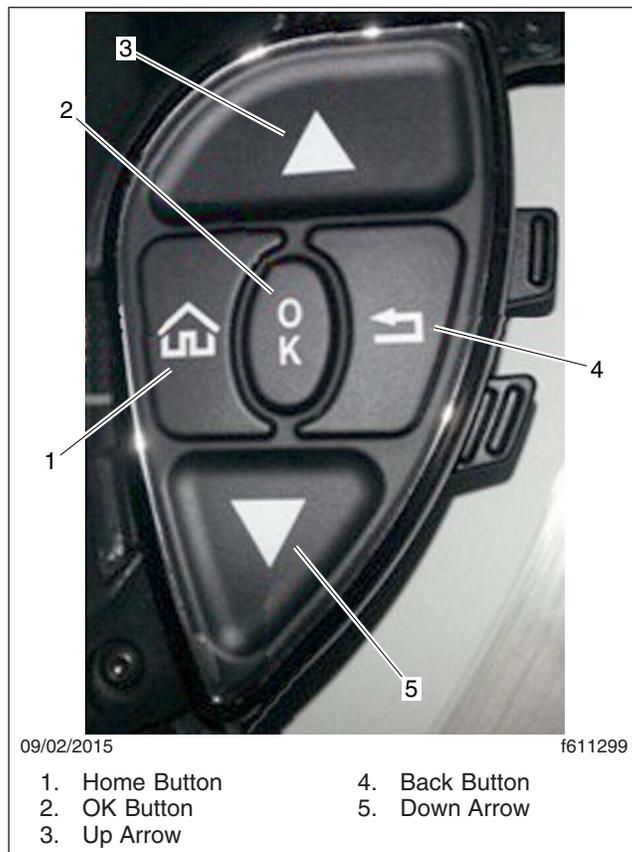

Fig. 12, Steering Wheel Buttons
8. With the ignition on, insert the flash drive labeled 'Procedure A, Step 1' in the open USB port on the Viper II module. Using the buttons on the steering wheel, shown in **Fig. 12**, navigate to Diagnostics, then System Information.
9. Hold the OK button until the new software part number appears, release OK button then press OK button again to begin the update. See **Fig. 12**.
11. Using the buttons on the steering wheel, shown in **Fig. 12**, navigate to Diagnostics, then System Information.
8. With the ignition on, insert the flash drive labeled 'Procedure B, Step 1' in the open USB port on the Viper II module. Using the buttons on the steering wheel, shown in Fig. 12, navigate to Diagnostics, then System Information.
9. Hold the OK button to begin the update. See Fig. 12.
13. Using the buttons on the steering wheel, shown in Fig. 12, navigate to Diagnostics, then System Information.
17. Using the buttons on the steering wheel, shown in Fig. 12, navigate to Diagnostics, then System Information.
2. With the ignition on, insert the flash drive labeled 'Procedure C, Step 1' in the open USB port on the Viper II module. Using the buttons on the steering wheel, shown in **Fig. 12**, navigate to Diagnostics, then System Information.
3. Hold the OK button to begin the update. See **Fig. 12**.
7. Using the buttons on the steering wheel, shown in **Fig. 12**, navigate to Diagnostics, then System Information.
2. With the ignition in the OFF position, press and hold the up arrow, down arrow, and back button on the steering wheel, shown in **Fig. 12**, while turning the ignition to the ON position.